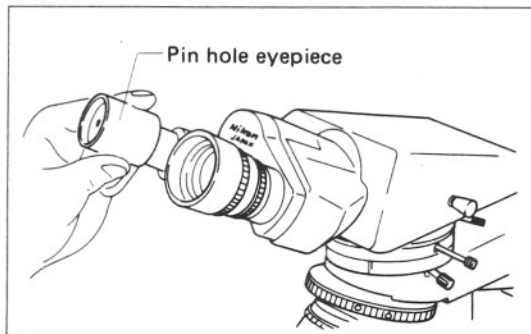

Fig. 18
- The conoscopic image may also be observed overlapping on the orthoscopic image through the binocular observation, one of the paired eyepieces being replaced with the accessory pin hole eyepiece and without the Bertrand lens in the optical path. (Fig. 18)